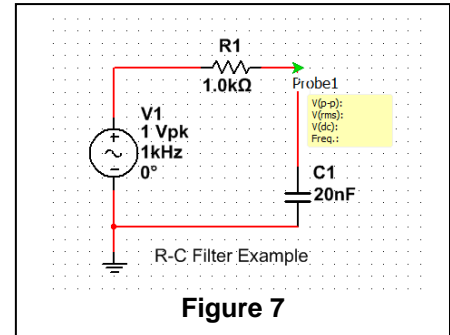

Figure 7
- Figure 7 shows our first-order RC low pass filter circuit complete with a 1 volt peak sinusoidal AC source. An AC voltage probe has been added to the node where R1 joins C1. To do this on your schematic, first find the yellow button  on the right hand edge of the screen that has a pop-up label Measurement Prob.